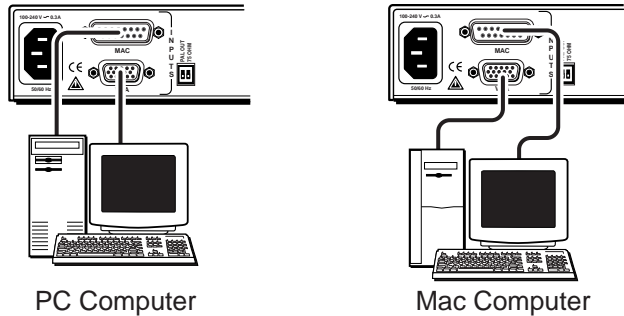

Figure 5 — Mac-VGA cable local monitor connections
2. Using the included Mac-VGA cable, connect the computer’s video output to the other input connector. See figure 5 and the pin assignment information on page 2-9.